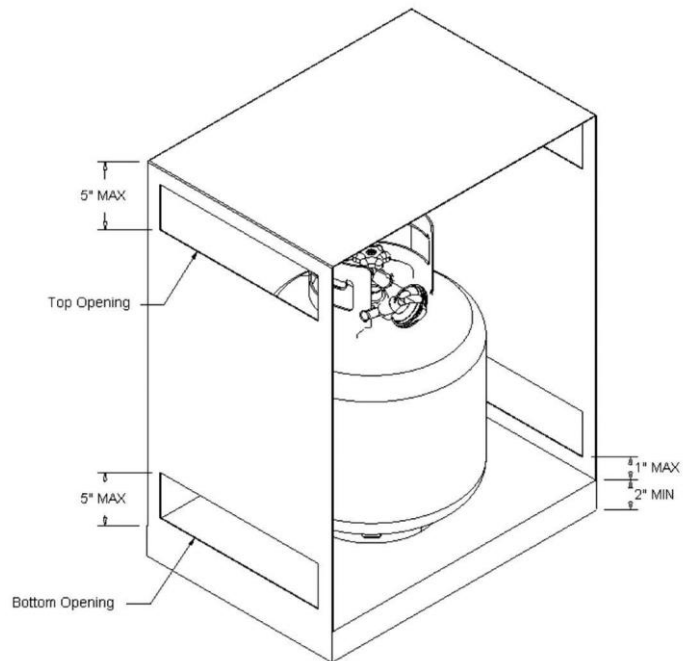

Figure 6.1 – Top and bottom side ventilation openings for LP tank enclosure.
- At least two ventilation openings shall be provided in the side walls of the enclosure, located within 5 inches (127mm) of the top of the enclosure, equally sized, spaced at a minimum of 180 degrees, and unobstructed. The opening(s) shall have a total free area of not less than 1 in2 lb. (14.2 cm2kg) of stored fuel capacity. See Figure 6.1.
- Ventilation opening(s) shall be provided at the floor level of the enclosure and shall have a total free area of not less than 1/2 in2 lb. (7.1 cm2kg) of stored fuel capacity. If ventilation openings at floor level are in a side wall, there shall be at least two openings. The bottom of the openings shall be 1 inch (25.4mm) or less from the floor level and the upper edge no more than 5 inches (127mm) above the floor level. The openings shall be equally sized, spaced at a minimum of 180 degrees and unobstructed. See Figure 6.1.